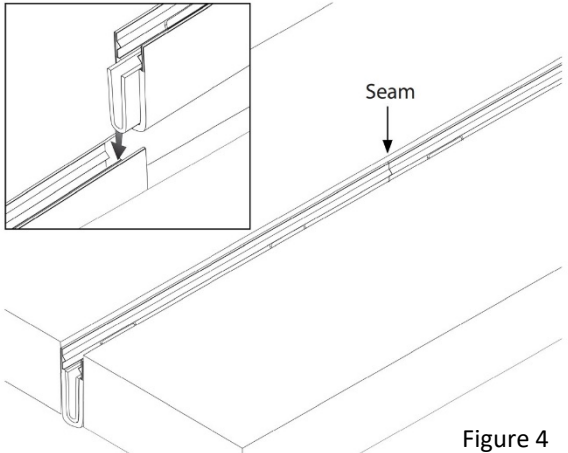

Figure 4
5. Continue installation by overlapping male side into female side. Ensure the transition connection is snug and free of gaps. Verify the seam overlaps fit tight, with no visible gaps or holes, *figure 4*.
6. Cut the zip-ties for the current fire barrier and continue installation for the rest of the run, *figure 4*.